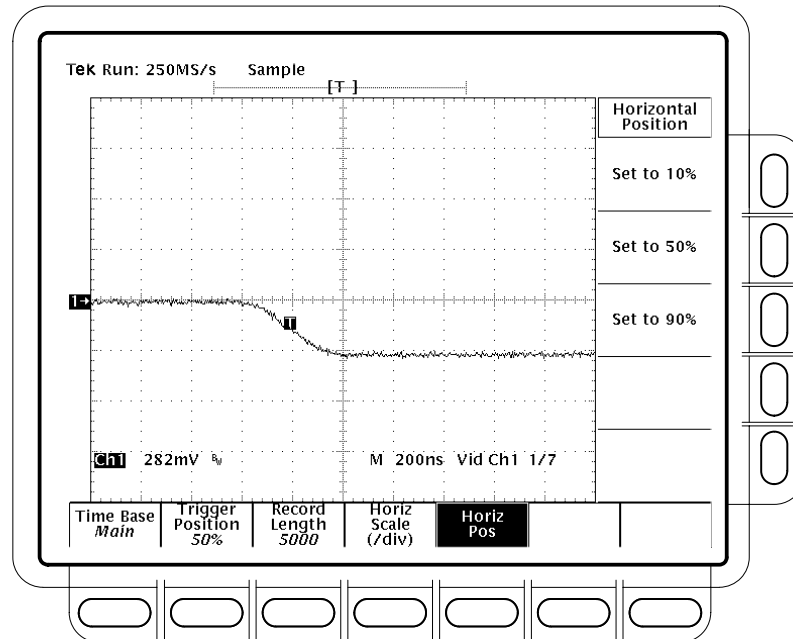

Figure 1-36: Line count accuracy test setup waveform – TDS 684B shown
- Use the **HORIZONTAL POSITION** knob to move the falling edge of the sync pulse to two divisions to the left of center screen. See Figure 1-36.